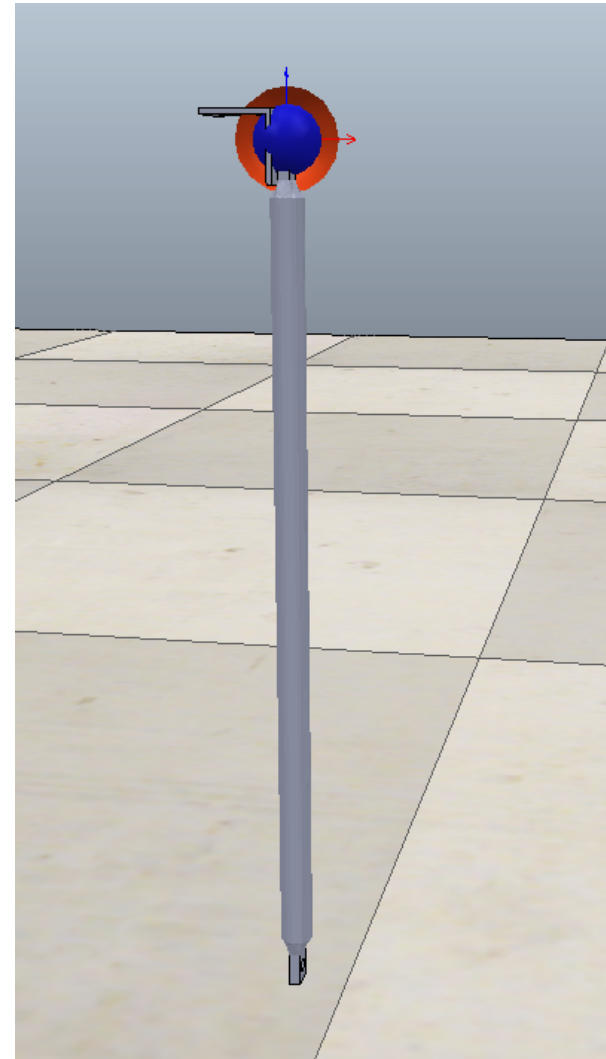

Figure 5: Placement of spherical joint between connecting_rod and l_connector.
- As an example, refer Figure 5 to understand the **need of spherical joint between connecting_rod and l_connector.**